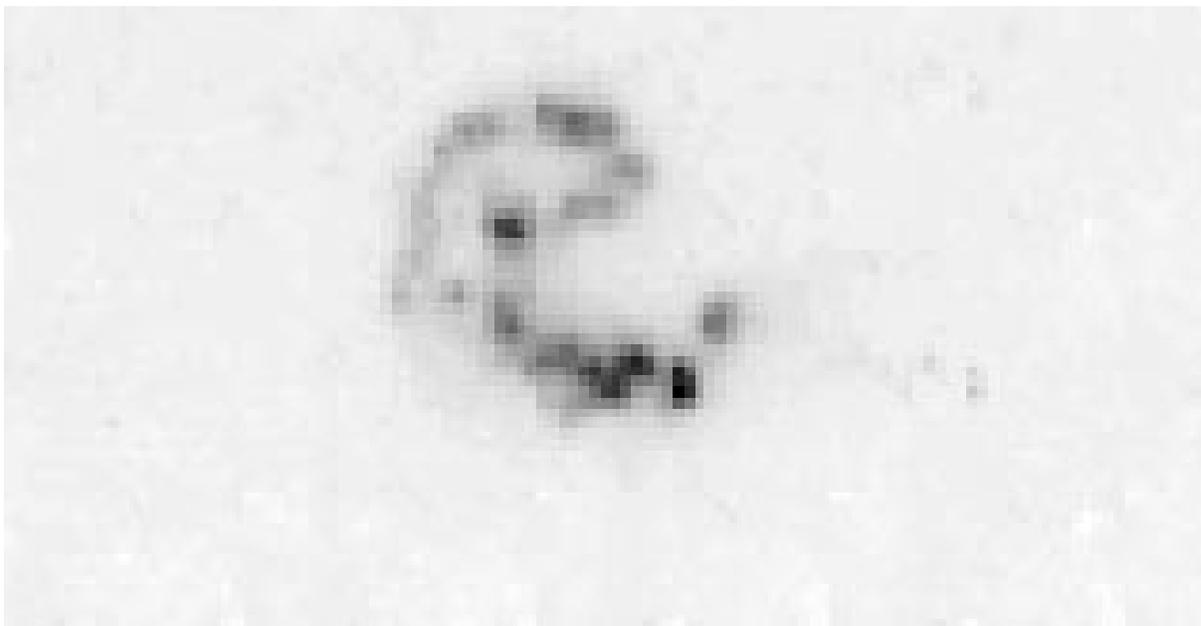

Figure 20.2: The raster MOSAIC with SSCD calibration and Fouks-Schubert transient correction. Display for comparison with Figure 3.3.
6. It might be interesting to compare the results of this calibration and those in Chapter 3 – see Figure 20.2 and Figure 3.3 respectively. Clearly in Figure 20.2 the background is cleaner and the ghost image to the left of the source is not present.